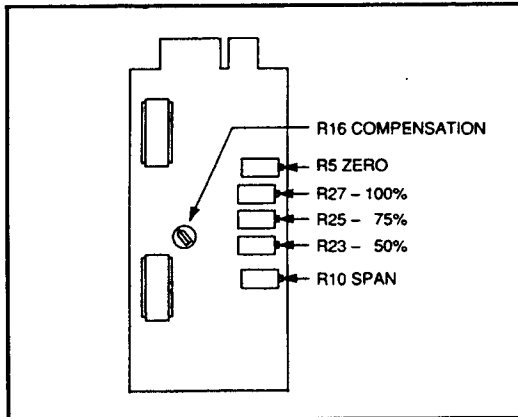

Figure 6-1 Potentiometer Location
7. **Calibrate 50%:** Increase the flow rate to 50% of full scale. If the output is 2.5 volts ± 25 mV or 12 mA ± 0.08 mA, no adjustment is necessary. If the output is beyond these limits, adjust R23 for the proper reading. (See Figure 6-1)